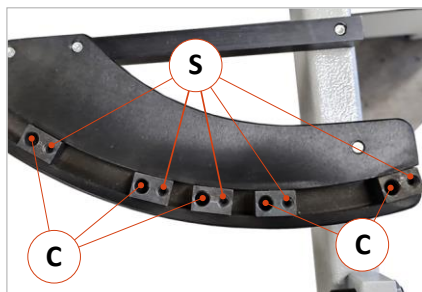

Figure 40: Indexing template (right)
The angular grid unit allows 5 common angular degrees to be mechanically stored. It can be used on the left or right side of the cross-cut carriage. The indexing templates (left and right) are screwed to the cross-slide frame as shown in ⇒ Figure 40. The scanning unit with the indexing bolt (R) is inserted into the lateral T-slot of the cross-cut fence and fixed with the clamping wheel (K).
- The adjustment must be made in sequence, starting with the outer or inner snap-in point (C).
- The outer position on the right (see ⇒ Figure 40) is recommended for the 90° position, for example.
- Engage the indexing bolt (R) in the first loose snap-in point and set the stop rail to the desired angle via the angle scale (J).
- Lift off the stop rail and fix the angle position with the fixing screw (S).
- Repeat this procedure with the remaining 4 snap-in points (C).
- To set one of the 5 stored angular positions when machining a workpiece, simply pull up the indexing bolt (R), approach the respective snap-in point (C) and let the bolt engage there.